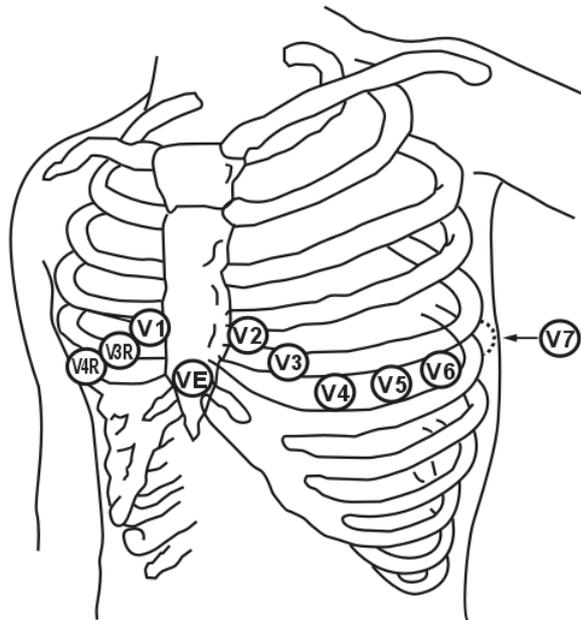

Figure 12-2 C-electrode placement for 5-lead set
- Red (R) electrode - Be placed near the right shoulder, directly below the clavicle.
- Yellow (L) electrode - Be placed near the left shoulder, directly below the clavicle.
- Black (N) electrode - Be placed on the right hypogastrium.
- Green (F) electrode - Be placed on the left hypogastrium.
- White (C) electrode - Be placed on the chest as illustrated in the F Figure 12-2
For 12-lead set, attach the C-electrode to one of the indicated positions as below (Figure 12-2):